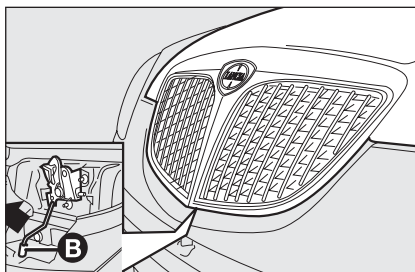

fig. 82
- ☐ move lever **B**-**fig. 82** leftwards as shown by the arrow;